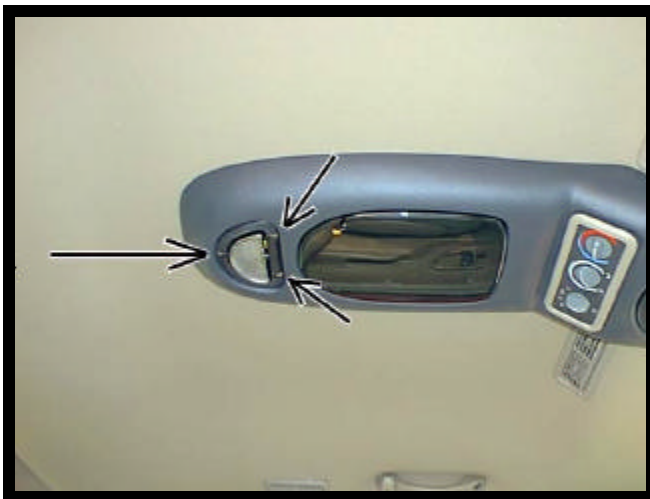

Figure 20
12. Attach wiring to rear light (item 6 pg 2) per step 1. Install light in console and secure to plywood above headliner using three (3) # 8 x 2 1/2" PFH screws (item 2 pg 2). See Fig. 20. Tighten screws until rear edge of console contacts headliner. **Caution: Do not overtighten screws or damage to vehicle roof may occur.**